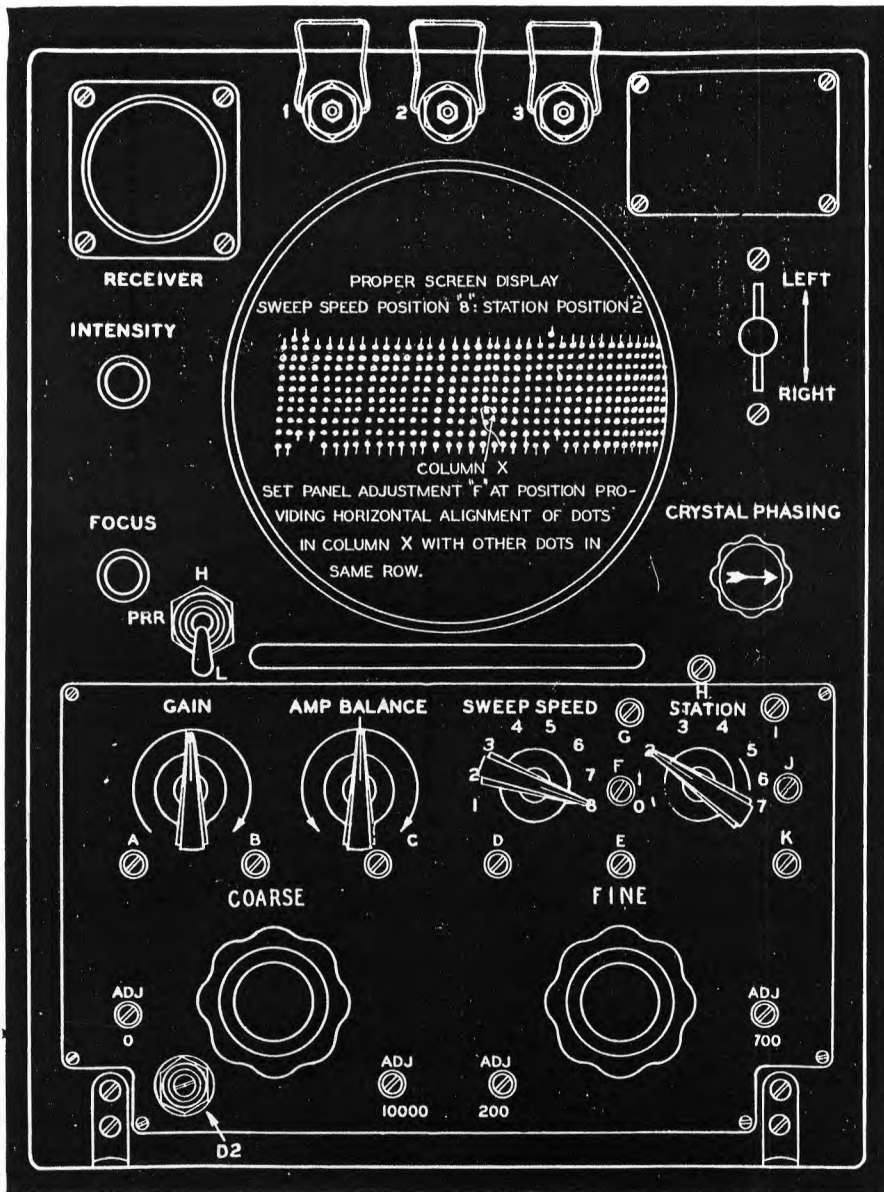

Figure 2-17A. Indicators *ID-6/APN-4 and *ID-6A/APN-4—Screen Display "STATION" Selector—Position "2"
1. Turn "STATION" selector to position "2." The screen display should appear almost like that shown in figure 2-17A. Observe that the dot in the third row of column "X," has now moved up to coincide, or nearly coincide, with the dot in the fourth row.